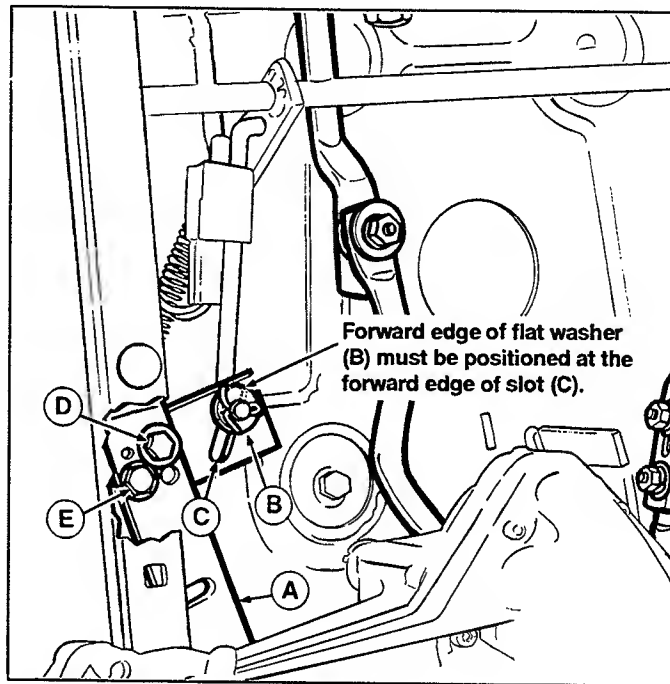

Figure 31. Idler Pulley Adjustment
If adjustment is required, stop the engine and release the parking brake. Inspect the idler pulley plate (A, figure 31) for correct position. With the clutch/brake pedal released, the forward edge of flat washer (B) should be positioned at the forward edge of slot (C) as shown in figure 31. This will ensure proper declutching of drive belt when the clutch/brake pedal is depressed.